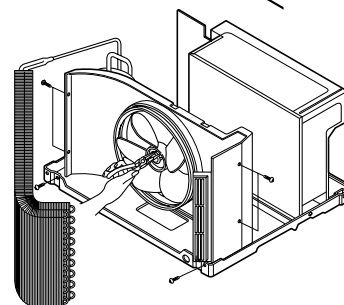

FIG. 8
6. Remove the fan. (See Fig. 8)